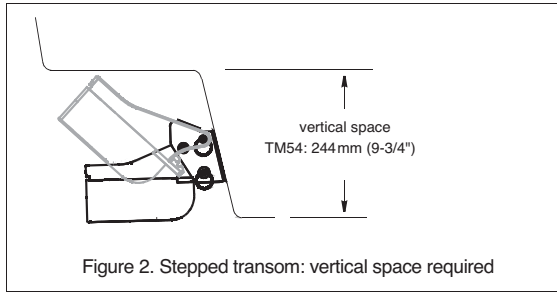

Figure 2. Stepped transom: vertical space required
- **Stepped transom**—Mount the transducer on the lowest step being sure there is enough vertical space above the bracket for it to release and rotate the transducer upward (Figure 2).